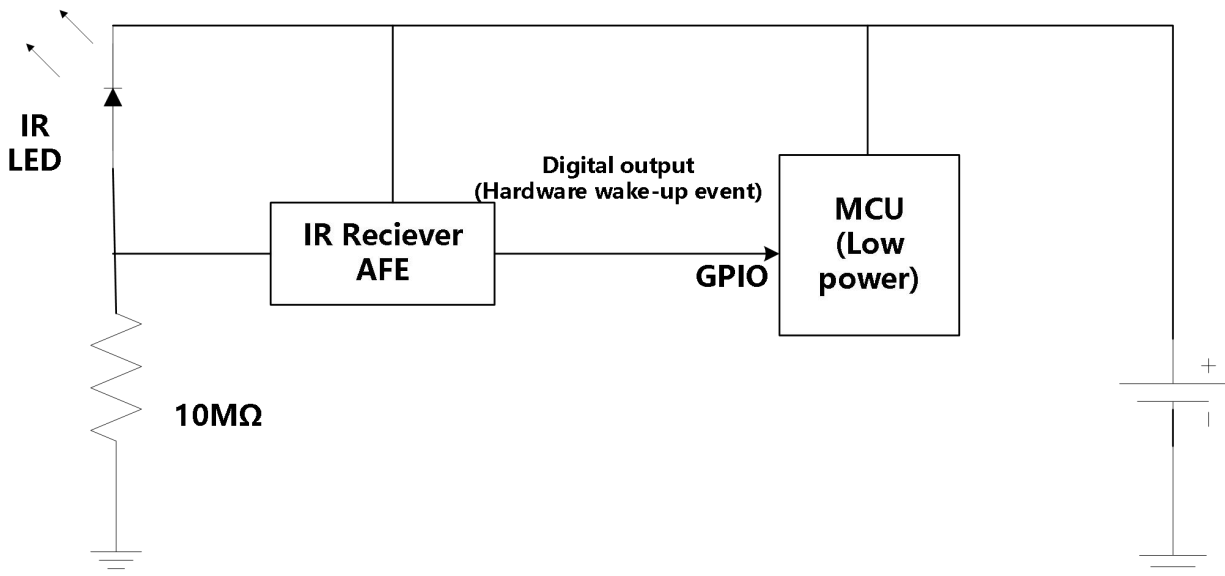

Figure 20: Cion Cell Battery Powered IR Receiver
Infrared (IR) communication is inherently immune to RF interference as long as there is a line-of-sight path between the transmitter and the receiver. It is also one of the lowest cost communication schemes. This makes it a good choice for implementing wireless communications in applications such as utility metering. A common system topology to extend battery life is to use a power efficient IR receiver analog front end (AFE) that is always on and wakes up the host only when there is valid IR signal detected as shown in Figure 20.
Figure 20 shows the IR receiver system block diagram. The host MCU is normally in the shutdown mode (during which the quiescent current is less than $1\ \mu\text{A}$) except when data is being transferred.